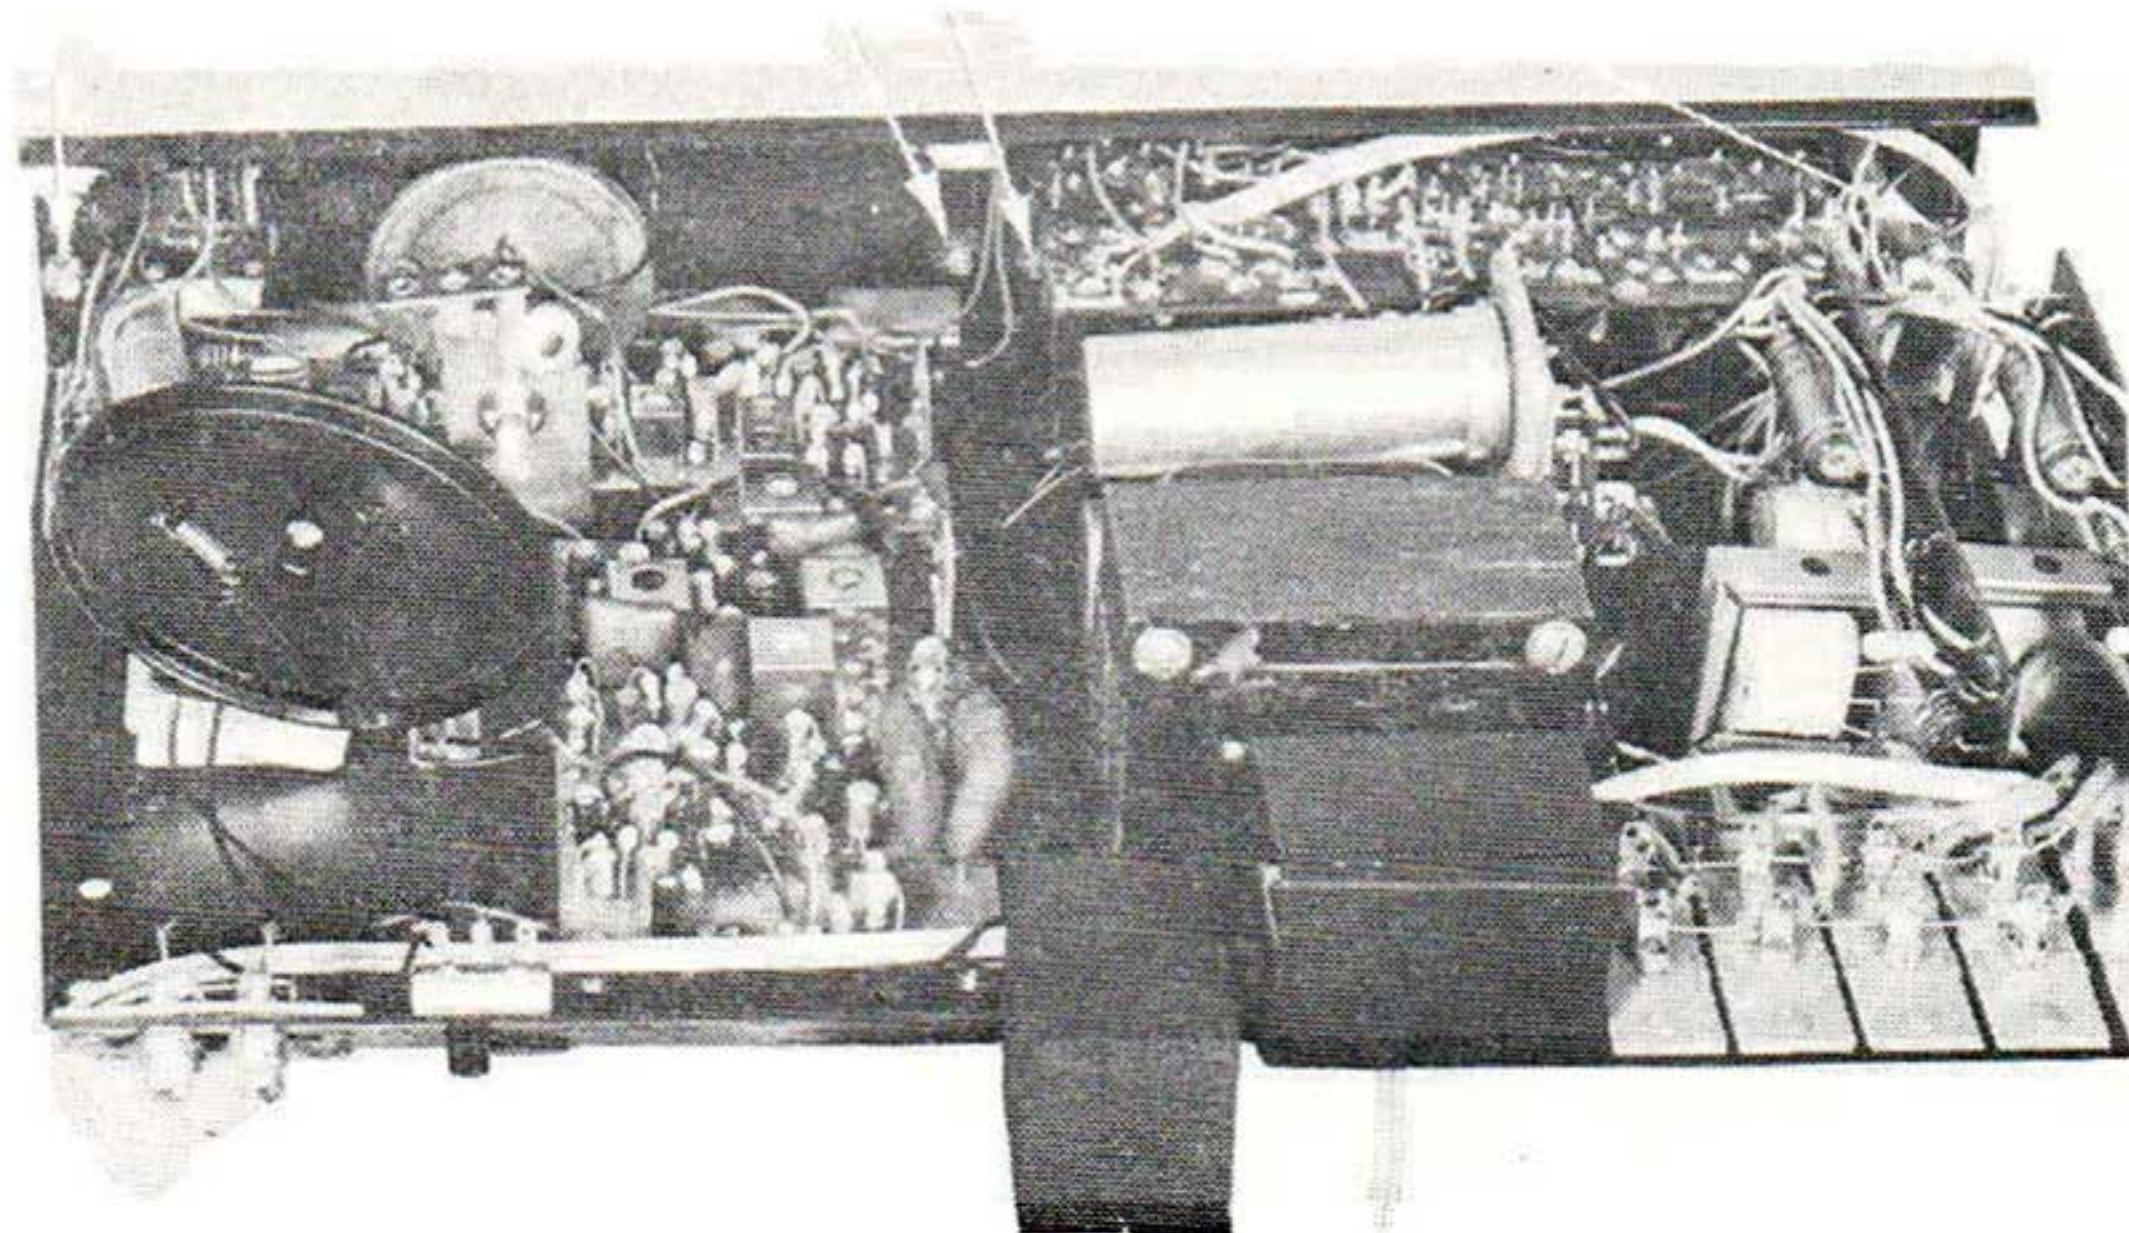

Figure 5
4. Remove the "C" clips (4 for 1177, 2 each for 1144 and 1155) holding the front panel to the chassis. Note: These should be cut off with side cutters and replaced with new clips. Take care not to break off front panel studs. (See figure 5 below)